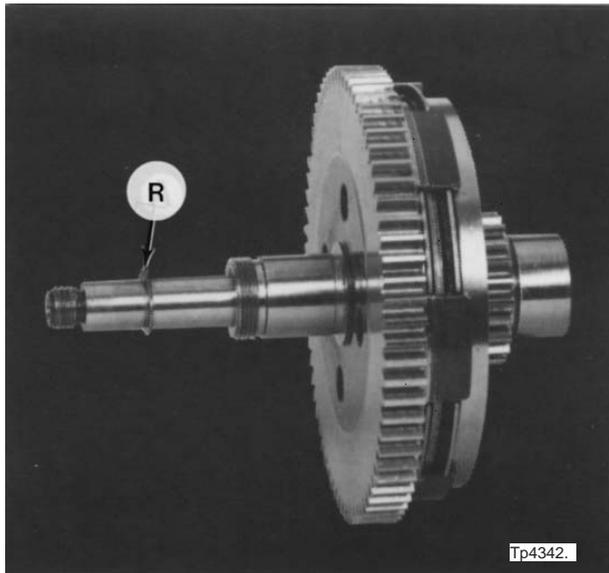

Figure 1.15 - Longitudinal (Carriage) Clutch
- a) Remove snap ring "R", Figure 1.15 .
- d) Replace snap ring “R”, Figure 1.15 .